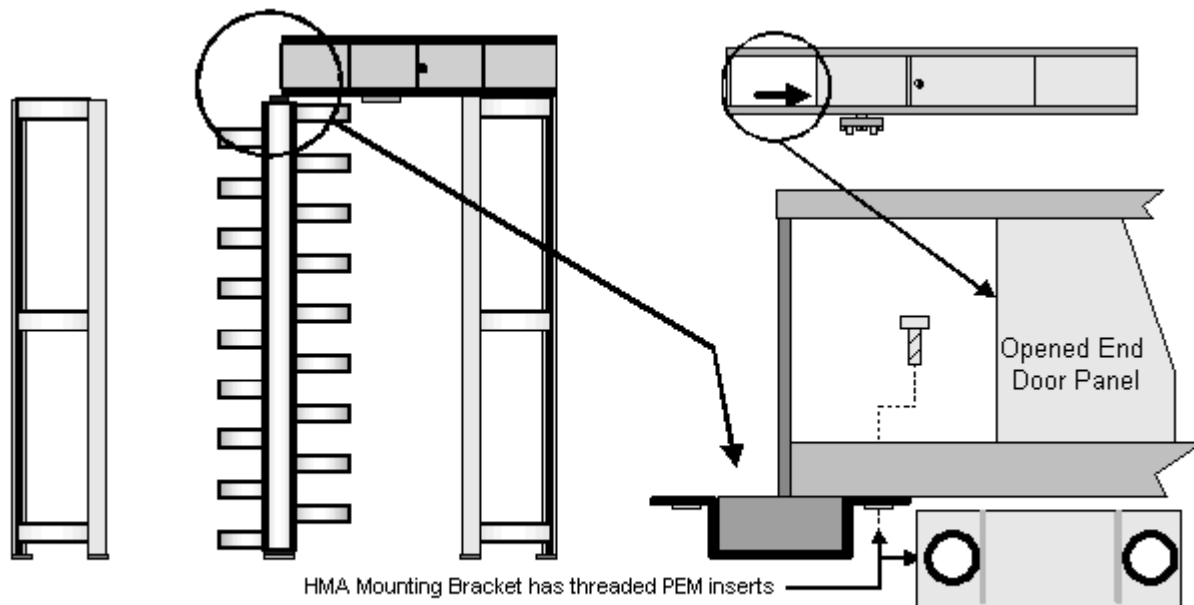

**Figure 27 Knurl Knob Identification**
- Secure the Header/Mechanism to the Center Passage Panel using the 5/16-18 x 3/4" bolts and washers provided. See Figure 27 below for access inside the Header/Mechanism here the bolt holes are.